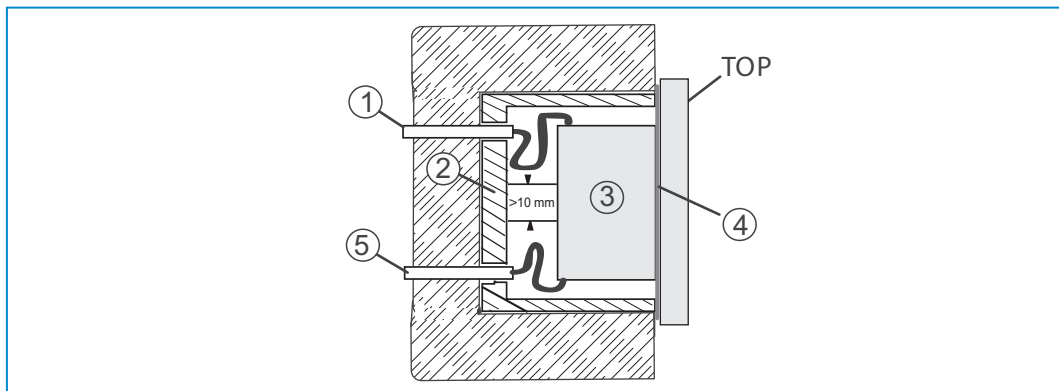

Fig. 6: SELV power circuits
- » Observe the spatial division (> 10 mm) of SELV electric circuits to other electric circuits during mounting (see Fig. 6).